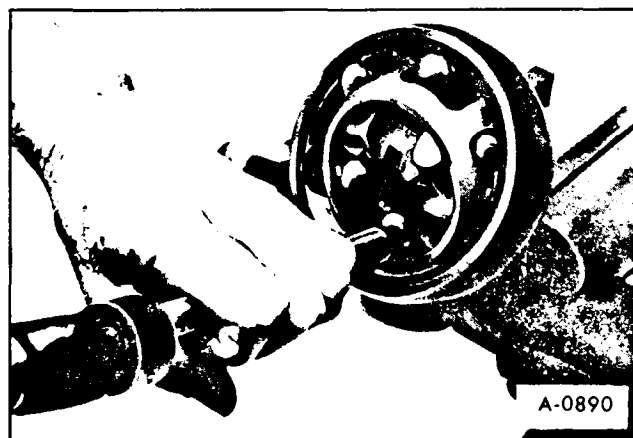
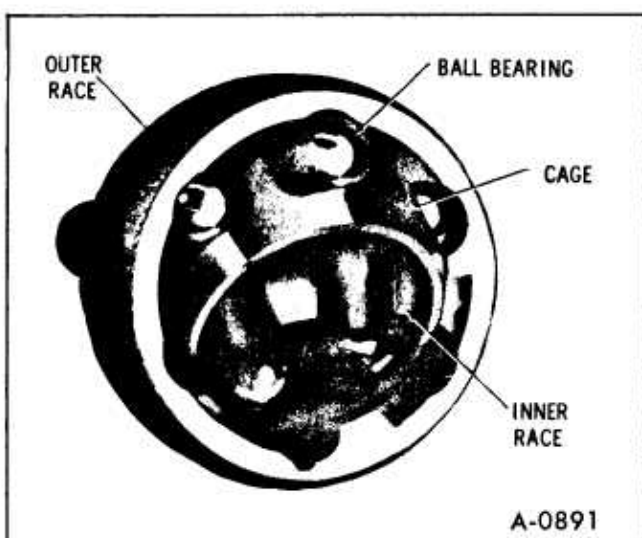

Figure 9—Tapping on Inner Race
Figure 10-Removing Ball Bearings
10. Carefully place a brass drift against one of the lobes of the inner race and tap gently as shown in Figure 9. Tip the race far enough to remove the first ball. The rest of the balls should be removed one at a time, with the cage tipped as shown in Figure 10. It may be necessary to carefully pry the last ball out of the cage with a screwdriver.